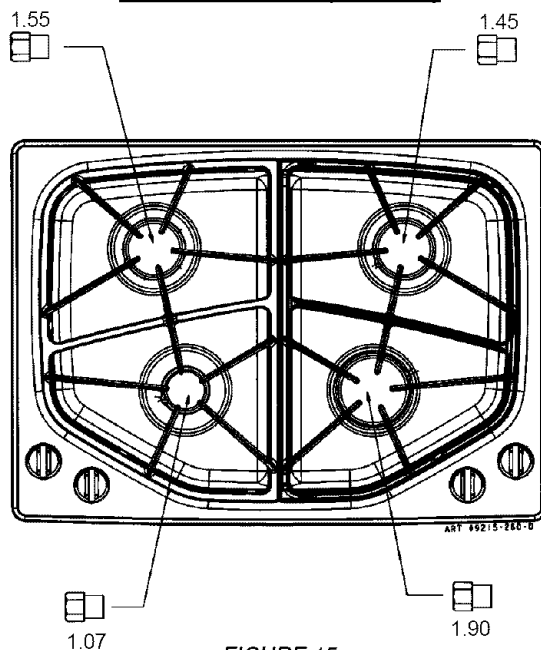

FIGURE 15
4. For Step 5: Locate the brass natural gas orifice spuds that were originally installed in this appliance before its conversion for use with LP gas. Observe the number on each of the spuds and note the correct burner location for each spud as shown in figure 15 or 16.
Specified input rates are as shown in figure 15 below.